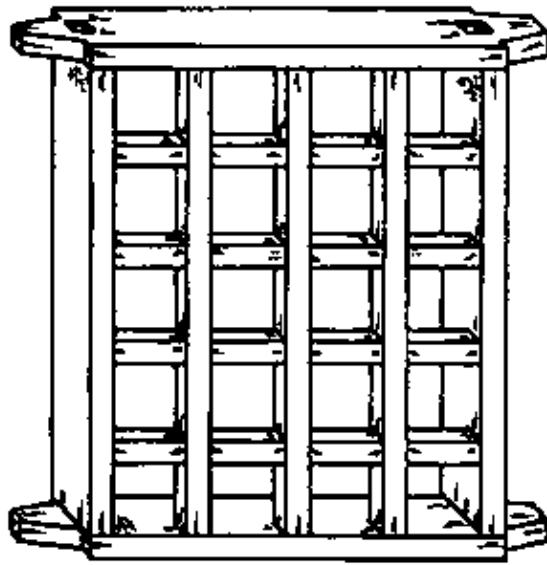

Fig. 4
– A relatively inexpensive and reliable burglar proofing is the wooden type. During assembly of the frame, this burglar proofing is installed into mortices made in the head, cill and posts of the frame. The separate pieces are fitted together with halving joints in a crosswise pattern (Fig. 4).